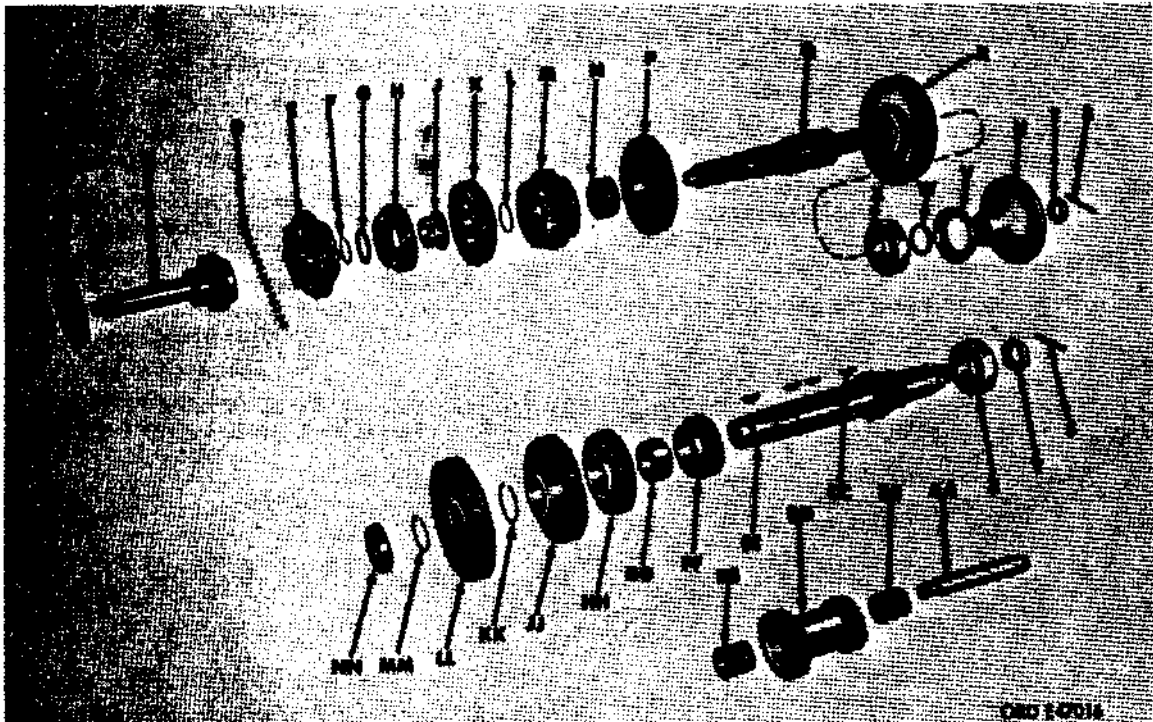

Figure 260. Transmission gears and shafts - exploded view
(1) Countershaft assembly.
- (a) Place countershaft front roller bearing (NN, fig. 260) in front bearing bore of transmission case (H, fig. 261).
- (b) Place countershaft and gear assembly in transmission case (H, fig. 261) by lowering rear end of countershaft into case first, and then sliding countershaft assembly forward into position in countershaft front roller bearing (NN; fig. 260).
- (c) Install countershaft rear ball bearing (Z, fig. 280) in rear bearing bore of transmission case. Install slotted nut (Y, fig. 260) and tighten securely. Place cotter pin (S, fig. 260) in countershaft and locknut.
(2) Reverse idler gear assembly.
- (a) Place reverse idler gear (DD, fig. 260) with the two reverse idler gear roller bearings (BB, fig. 260) in transmission case (H, fig. 261), with the largest gear towards front of transmission and in mesh with countershaft gears.
- (b) Place reverse idler gear shaft (AA, fig. 260) in hole provided in rear of